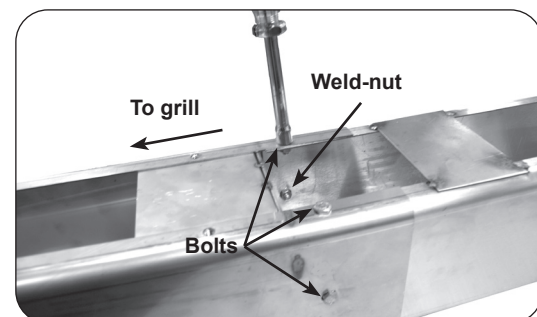

Fig. 28-2 Fasten extension to post
2. From outside the joined post and extension, insert one of the  $\frac{1}{4}$  X 20"-5/8 bolts (supplied) into each of the five (5) bolt holes and tighten each using a  $\frac{7}{16}$ " socket driver or wrench (see Fig. 28-2).